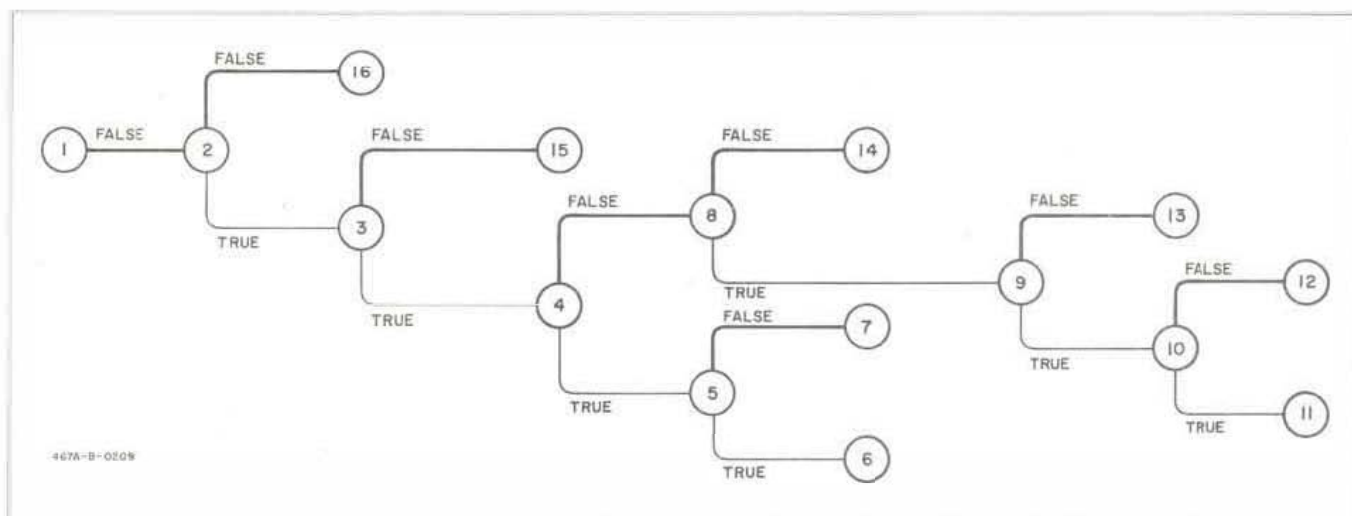

Figure 5-8. Troubleshooting Tree
5-35. Table 5-7, in conjunction with Figure 5-8, contains procedures which may be used as a guide in isolating malfunctions. The steps in Table 5-7 describe the normal conditions which should be encountered during the checks (circled numbers (N)) in Figure 5-8.
5-37. Conditions described in Figure 5-8 and Table 5-7 are based on the Model 467A set to SUPPLY ± 20 ; and VOLTS ADJ set fully clockwise. Under normal operating conditions, this would provide an output voltage of ± 20 to ± 22 Vdc.